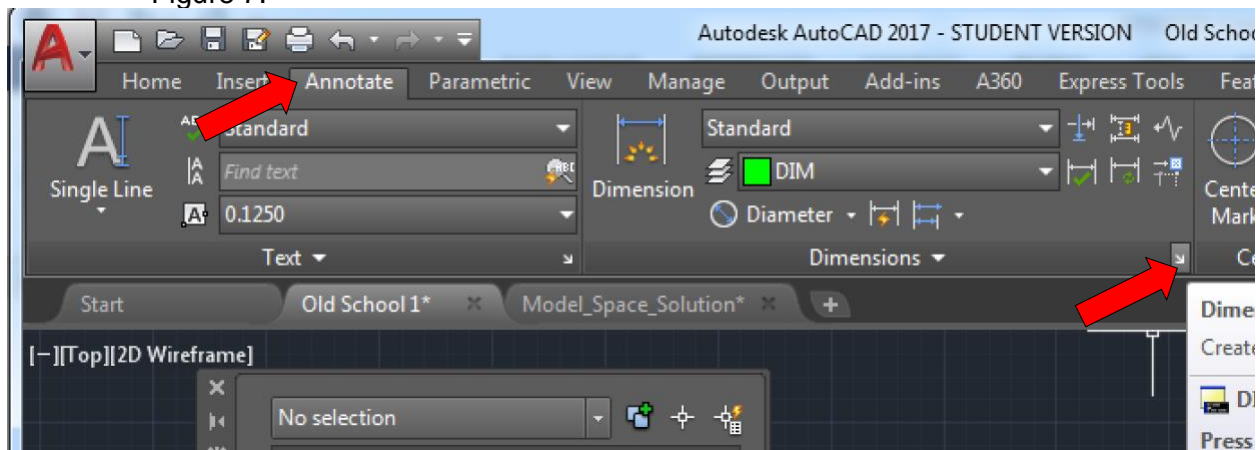

FIGURE 7 LAUNCH DIMENSION STYLE EDITOR
8. Now we need to take care of our dimensions. Launch the Dimension Style Manager. From the Annotate Ribbon, Dimensions Panel, pick the tiny slanted arrow, see Figure 7.